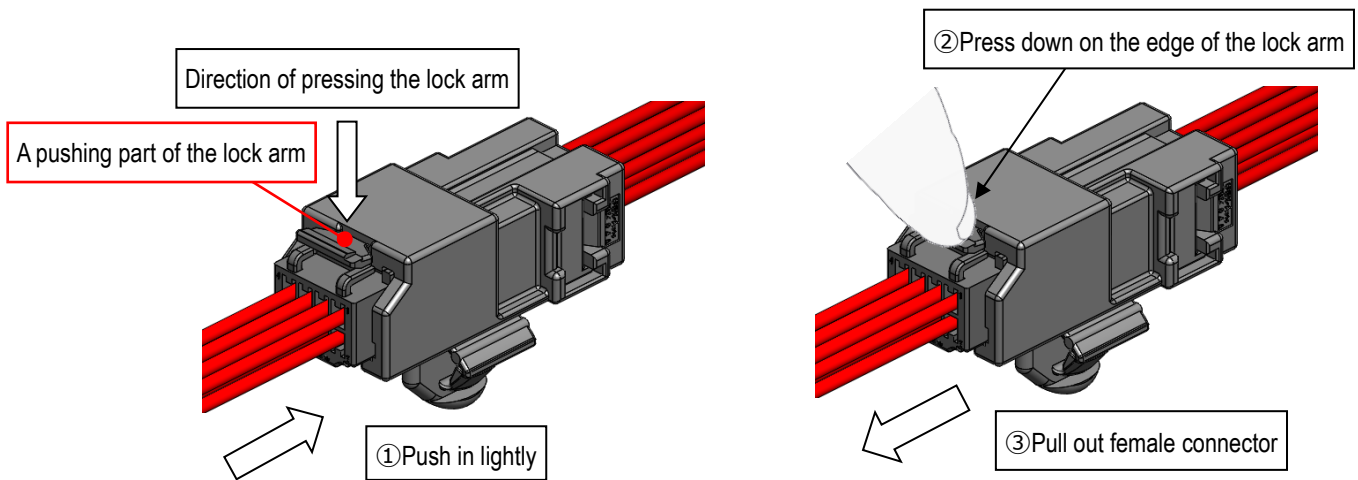

Fig. 46 Unmating of connector
- ① Hold the female connector and push it in lightly.
- ② While holding the female connector in, press down fully on the end of the lock arm (see Fig. 46).
- ③ Keep pressing the lock down, and pull out the female connector.